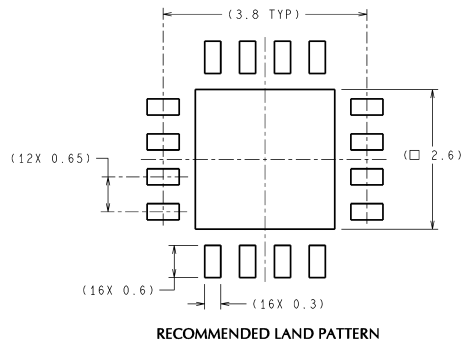

**FIGURE 1. Supply Current vs. Belden 1694A Cable Length, 1.485 Gbps**
**Note 7:** Supply current depends on the amount of cable being equalized. The current is highest for short cable and decreases as the cable length is increased. Refer to Figures 1, 2.
The supply current ( $I_{CC}$ ) depends on the amount of cable being equalized. The current is highest for short cable and decreases as the cable length is increased. *Figure 1* shows supply current vs. Belden 1694A cable length for 1.485 Gbps data and *Figure 2* shows supply current vs. Belden 1694A cable length for 270 Mbps data.